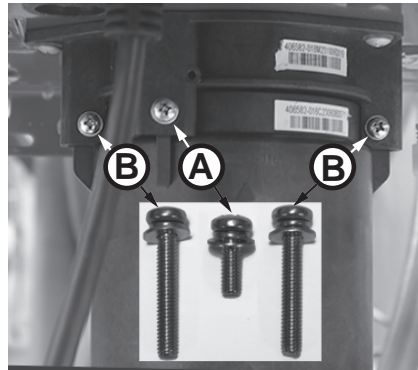

Figure 222 - Identify cartridge screws
- 6** Locate the three (3) screws securing the X3®/Bypass cartridge as shown in Figure 222. Remove the **(A)** M4-12mm screw and the two **(B)** M4-25mm screws from cartridge. Place screws aside in a safe place for reinstallation.